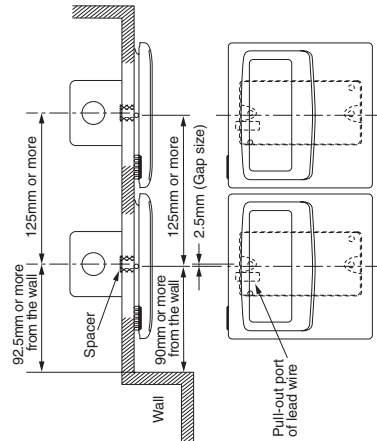

Fig. 1
When installing the program weekly timer (remote controller/system controller, etc.) to the wall surface, follow the installation procedure in (Fig. 1) and (Fig. 2).
- 1. Installation of drain-up kit body (See Fig. 1.)**
- 2. Hose connection (See Fig. 1.)**
<Fig. 1>